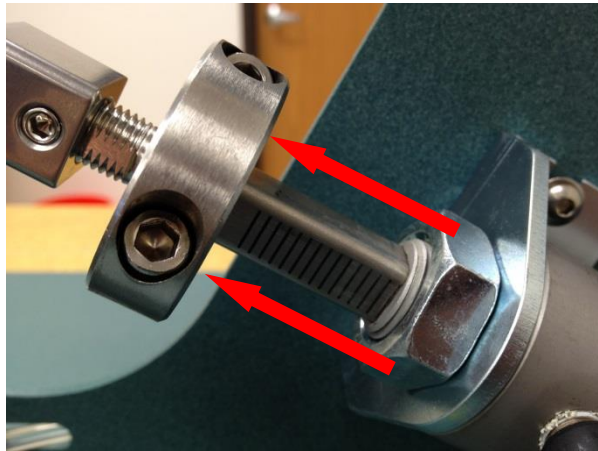

Figure 5
- Using a 3/16" hex wrench, loosen the two (2) bolts on all three (3) stop collars and slide them forward on the cylinder shaft to where the threads start and tighten the bolts on all three (3) stop collars using the 3/16" hex wrench. **(Figure 5)**